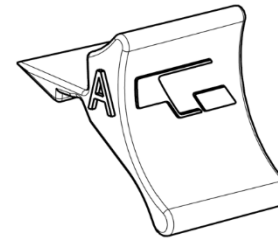

Fig. 2
1. Take one Toggle Shield® Rocker **part 'A'** from the bag. It is marked with the letter 'A' (see figure 2).